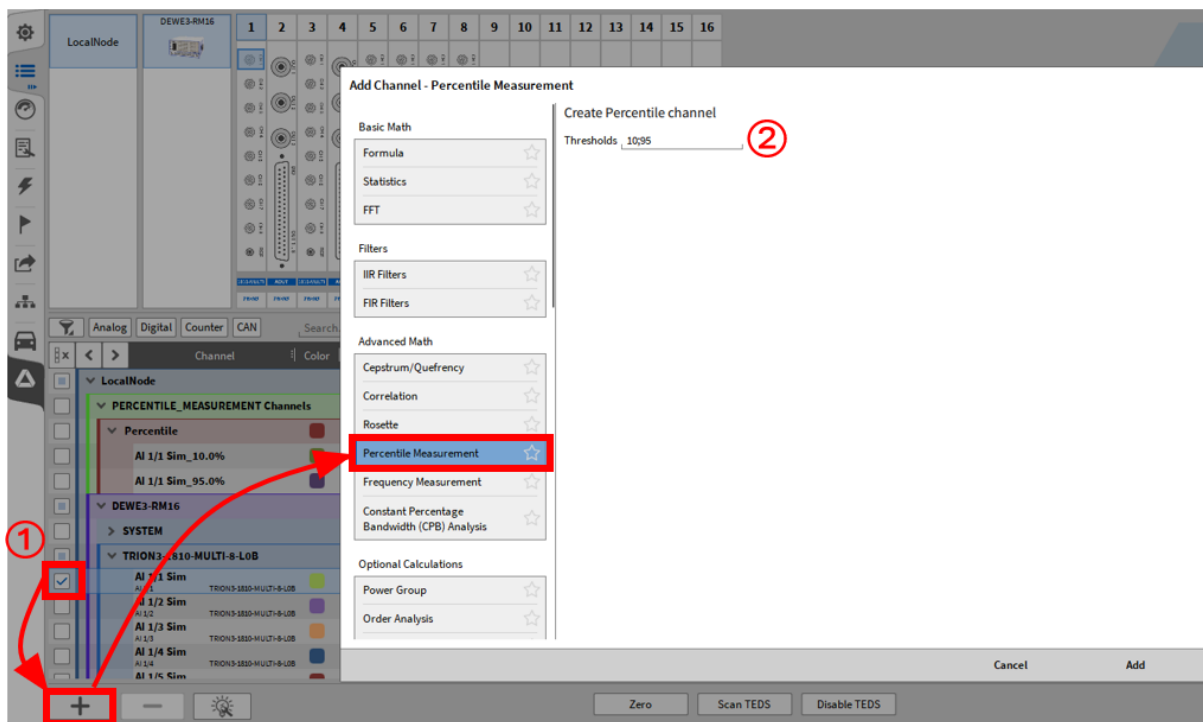
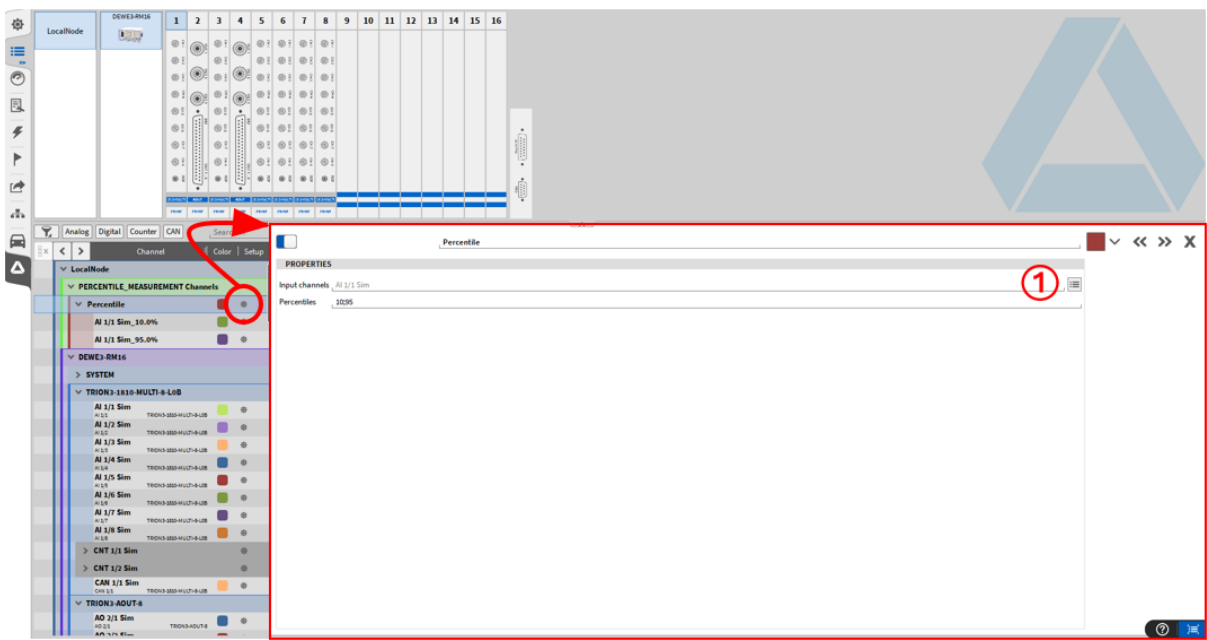

Fig. 7.118: Add a percentile measurement
Fig. 7.119: Subsequent changes to the percentile measurement
To create one or more channels for a percentile measurement, click on the + button in the bottom left corner of the channel list. A pop-up window appears in which the percentile measurement must be selected in the list (see Fig. 7.118). One or more channels must be selected in the channel list before clicking on the + button (see ① in Fig. 7.118). It is also possible to add channels for the measurement afterwards (see ① Fig. 7.119). You can specify 1 or more threshold values in %. When selecting multiple threshold values, the individual values must be separated by “;” (see ② in Fig. 7.118).
After clicking the Add button, a new section appears in the channel list called PERCENTILE MEASUREMENT Channels. To change the settings afterwards or to add channels or thresholds, click on the small cogwheel (see Fig. 7.119).